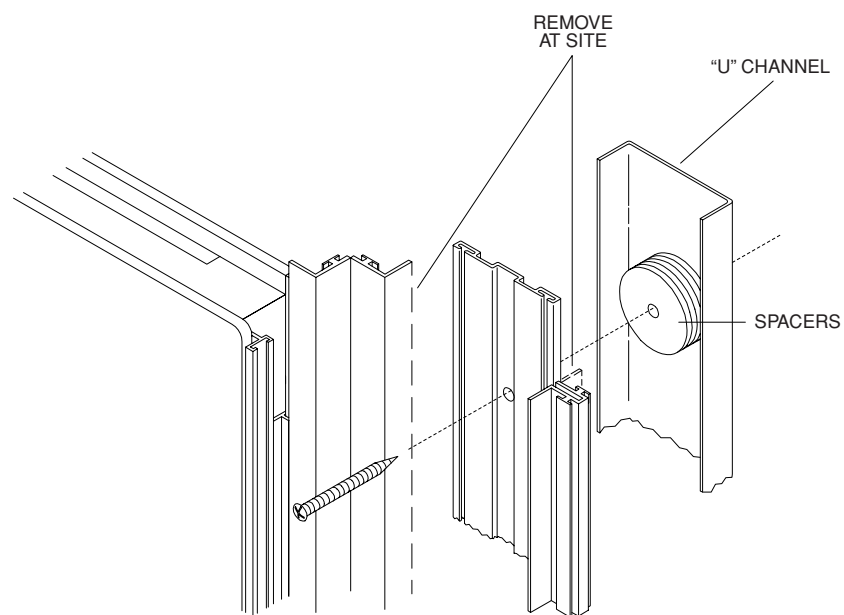

FIG. 2
7. The panel is now ready for attachment to the wall mount extrusion. This utilizes the same hinge connector attachment which joins all other panels (Figure 2). (You may trim off the light block portion of the hinge on the wall mount side to facilitate installation, if necessary.)